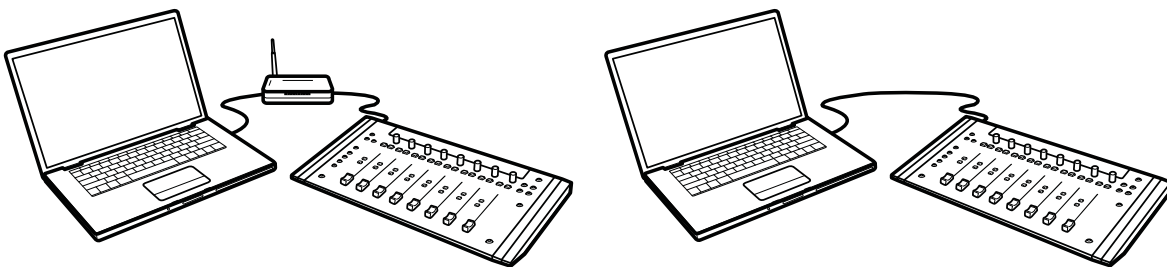

Figure 2-9 MC Mix connected to router (left) and directly to computer (right)
7. Plug the other end of the Ethernet crossover cable into an open Ethernet jack on your computer, router, or Ethernet switch (Figure 2-9).
An Ethernet router or switch is required to connect additional MC Mix units or to a local area network. Note that connecting directly to the computer (Figure 2-9-right) may require removing your Internet cable.